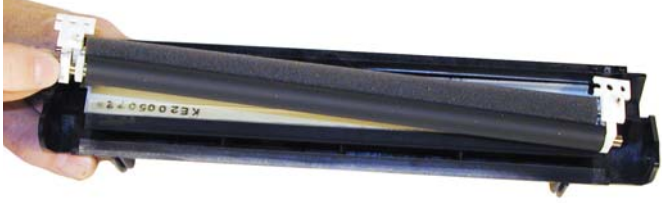

Figure 20
17) Pry up the white plastic holders and remove the PCR assembly. See **Figure 20**